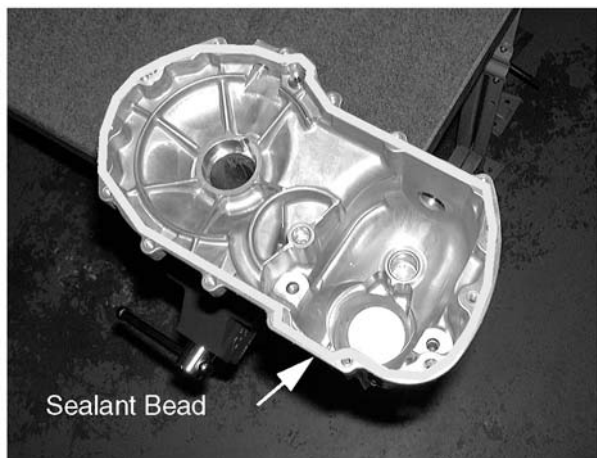

Figure 6-68.
33. Clean the mating faces of the two case halves for assembly. See Figure 6-68.